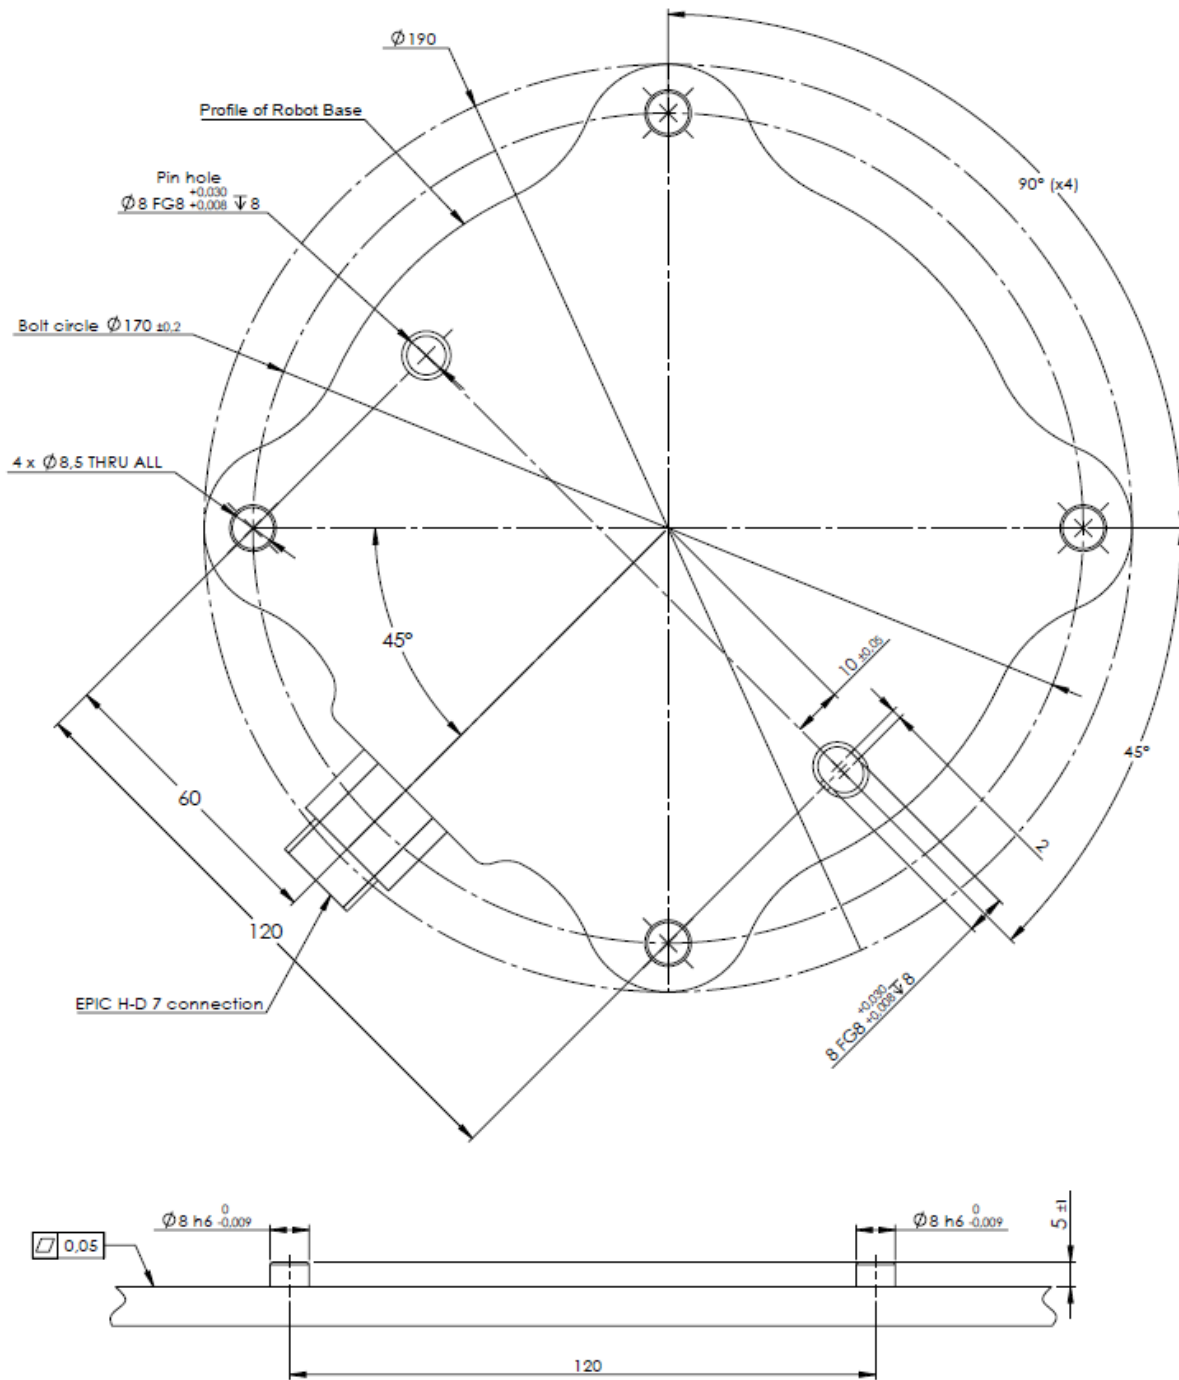

Figure 4.1: Holes for mounting the robot. Use four M8 bolts. All measurements are in mm.
**Robot Arm** The robot arm is mounted using four M8 bolts, using the four 8.5 mm holes on the base. It is recommended to tighten these bolts with 20 N·m torque. If very accurate repositioning of the robot arm is desired, two  $\varnothing 8$  holes are provided for use with a pin. Also, an accurate base counterpart can be purchased as an accessory. Figure 4.1 shows where to drill holes and mount the screws.